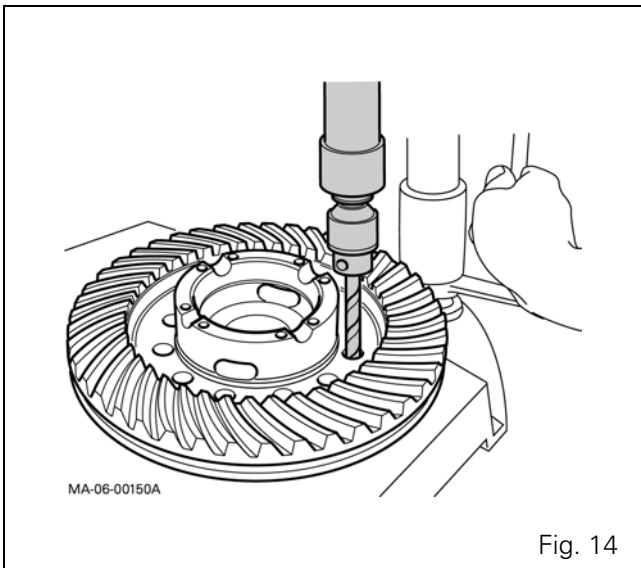

Fig. 14
46. Centre punch each rivet (24) (on toothed side of ring gear).
47. Using a 5 mm drill, drill out the rivets to a depth of 10 mm (Fig. 14).